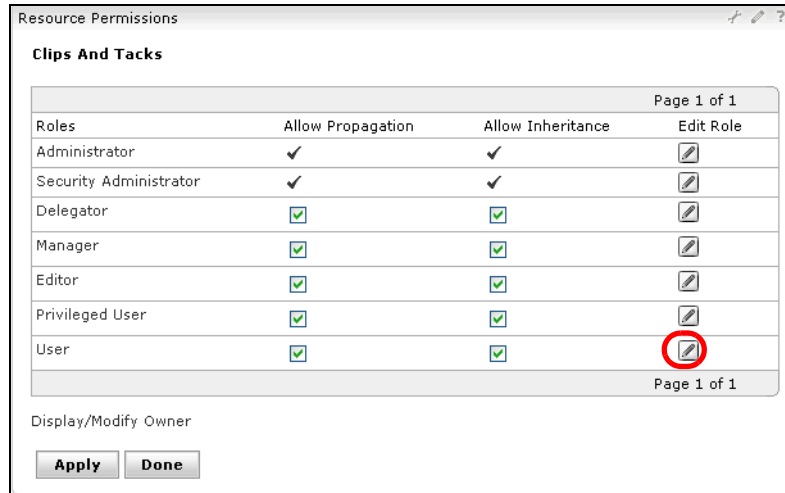

Figure 14-87 Defining portal page permissions
- In the dialog, click *Edit Role* for User (Figure 14-87).